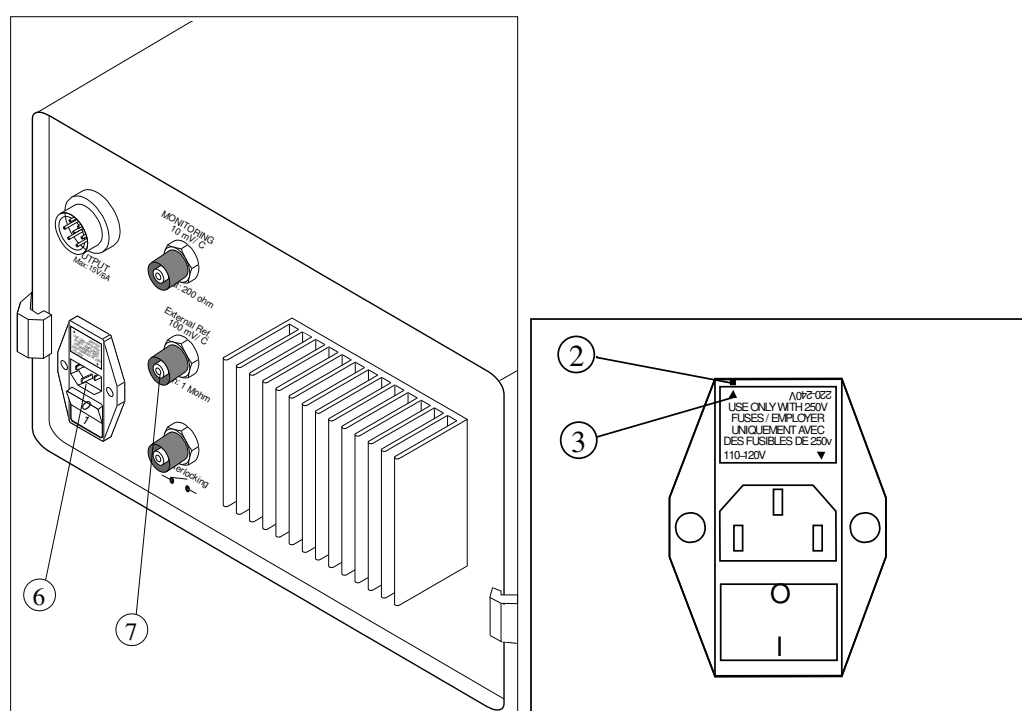

Figure 3.2.: TCU installation: rear panel (left), fuse holder (right).
4. check that the temperature controller voltage setting is appropriate. For the TC-3, the procedure to change the fuse is outlined in the TC-3 manual. For the TCU, follow the following procedure: the fuse holder (6) on the rear panel shown in figure 3.2 should be set to 100-120V and 60 Hz for North America, 220-240 V and 50 Hz in Europe. If not, set the appropriate AC voltage by setting the fuse holder in the proper position:
- a) Pull out the fuse holder (3) from the socket (2)
- b) check that the fuse holder is in the proper position to get the appropriate voltage. The arrow on the fuse holder (3) should correspond to the mark on the socket (2).
- c) Insert the fuse holder (3) into the socket (2).